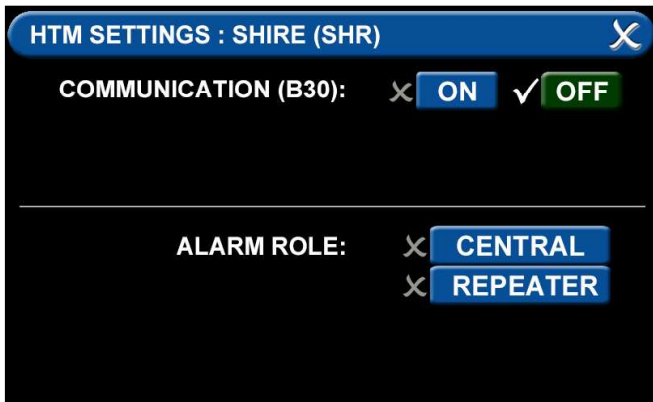

Figure 167: Shire Network Setup
- Press the B30 BOARD SETUP tab (Figure 167).